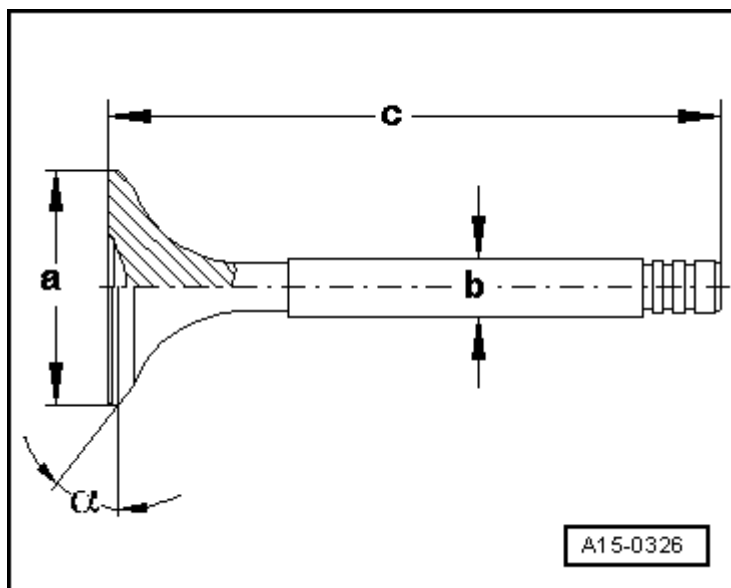

Fig. 18: Identifying Valve Dimensions
- Valve dimensions, refer to **Fig. 18**.